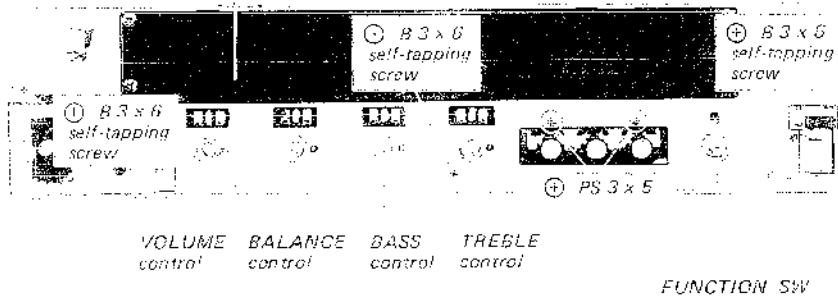

Fig. 2-15. Switch and control replacement
1. Remove the five self-tapping screws securing the front subchassis to the chassis as shown in Fig. 2-15.